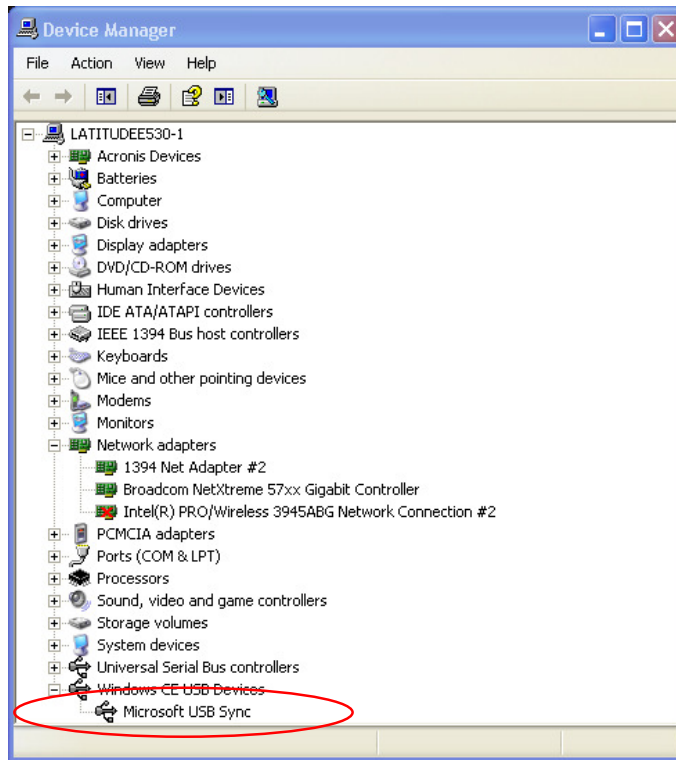
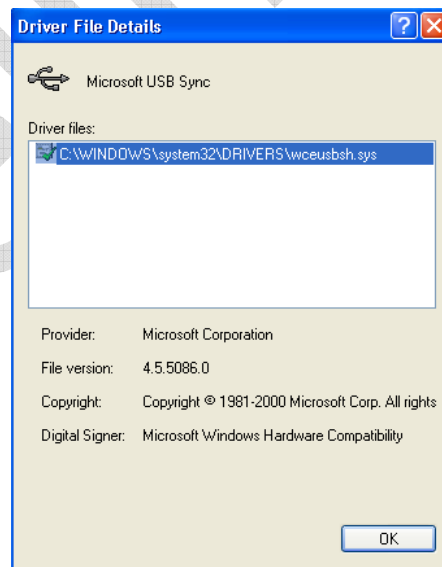

Figure 1.16: Windows CE USB Device listed under Device Manager
Figure 1.17: Host PC USB Driver
3. Confirm via the 'Device Manager' on the host workstation, that UMR device has been recognised as a USB WinCE device (Figure 1.16) and the associate driver file is 'wceusbsh.sys' (Figure 1.17).